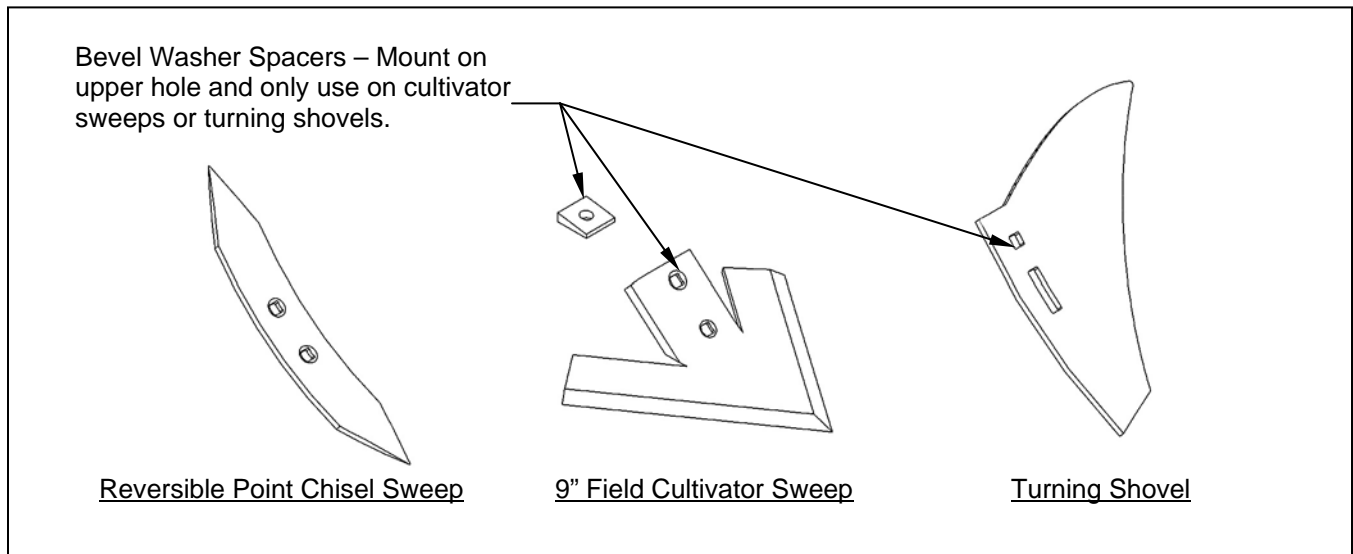
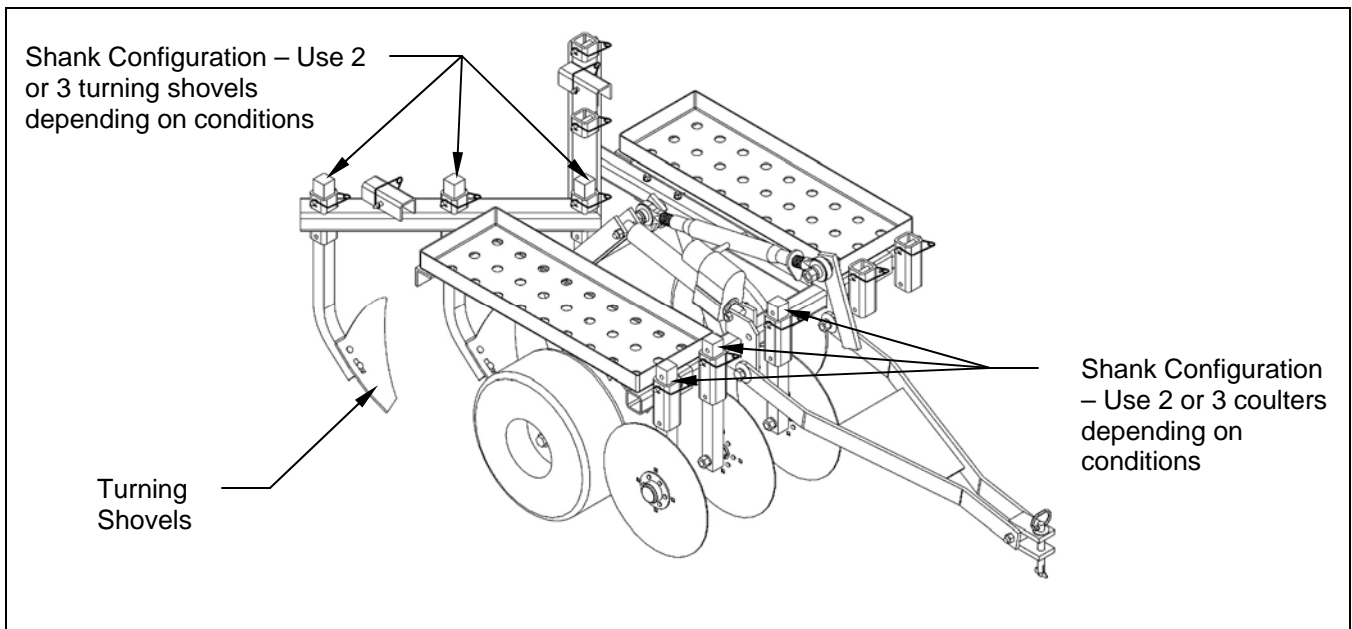

Figure 3. – Sweep Selection
Figure 6. – Turning Shovel Configuration
C. SELECTING THE PROPER SWEEP – Refer to Figure 3.
It is recommended that these conditions be mowed and sprayed with a grass killer. A grass killer will not only kill the green growth but will help to break up the root structure as well. Sod is also easier to work with in the spring or shortly after a rain. In some soft ground or limited sod conditions, it may be possible to use the 9" field cultivator sweeps or reversible point chisel sweeps. In most cases the optional turning shovel kit will work best (**Part # 003801**). The turning shovels have the ability to strip the sod off and roll it to the side to prevent collecting on the shanks. In hard ground conditions it may be necessary to install the provided bevel washer spacers shown in Figure 3. These spacers will place the shovels at a steeper more aggressive angle of attack. In all cases additional weight is very helpful to maintain coulter penetration. The coulters will cut the sod which helps prevent collection on the shanks and reduces the pulling load requirements. In heavy sod conditions it may work best to only use two turning shovels. If only two turning shovels are used place the shovels on the shanks closest to the center of the tool. **(See Figure 6.)**